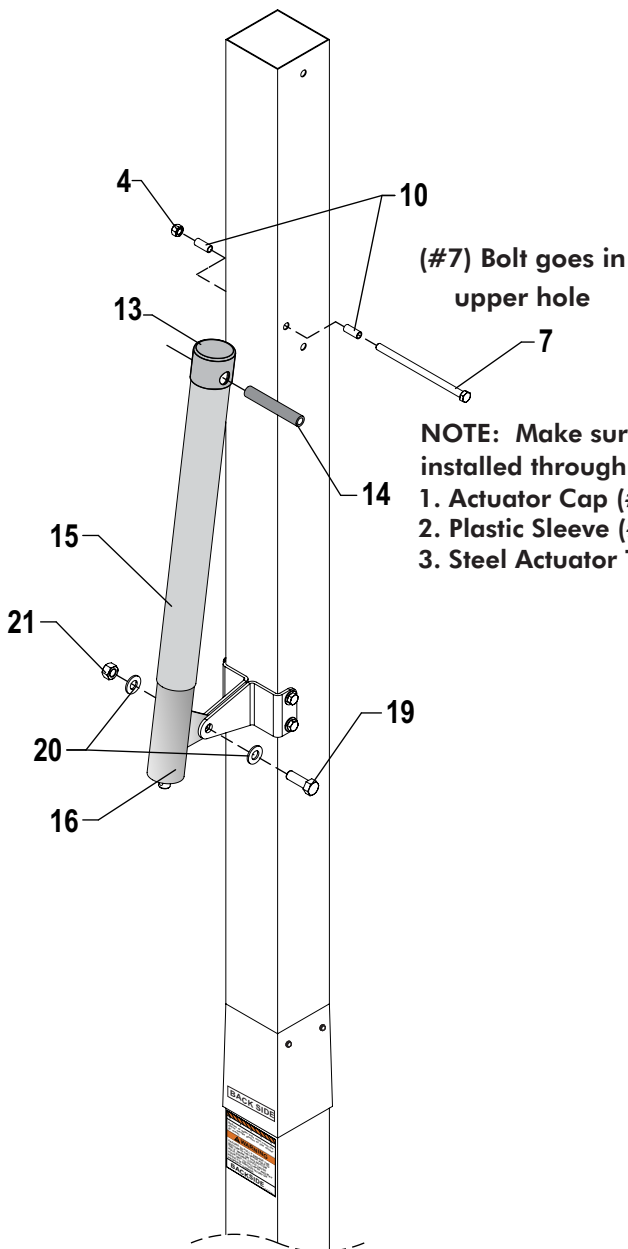

Figure 8
10. If not already pre-assembled, slide Plastic Actuator Sleeve (#15) over Steel Actuator (#16) and place Actuator Cap (#13) on top. Align holes in all 3 parts and slide Pivot Tube (#14) through holes in Actuator Cap (#13), Plastic Actuator Sleeve (#15) and Steel Actuator (#16) until equal amounts stick out through both sides of actuator. See **Figure 8**.
11. Slide tab on Actuator (#16) between Post Ears #30 and secure using one Bolt (#19), two Washers (#20) and one Lock Nut (#21). Tighten Lock Nut (#21) snug but **DO NOT** over tighten. See **Figure 8**. At this time also **tighten nuts (#4) from Step 9**.
12. Secure two Stop Spacers (#10) to pole, as shown in Figure 8, using one Hex Head Bolt (#7) and one Lock Nut (#4). Tighten Lock Nut (#4) but **DO NOT over tighten**.